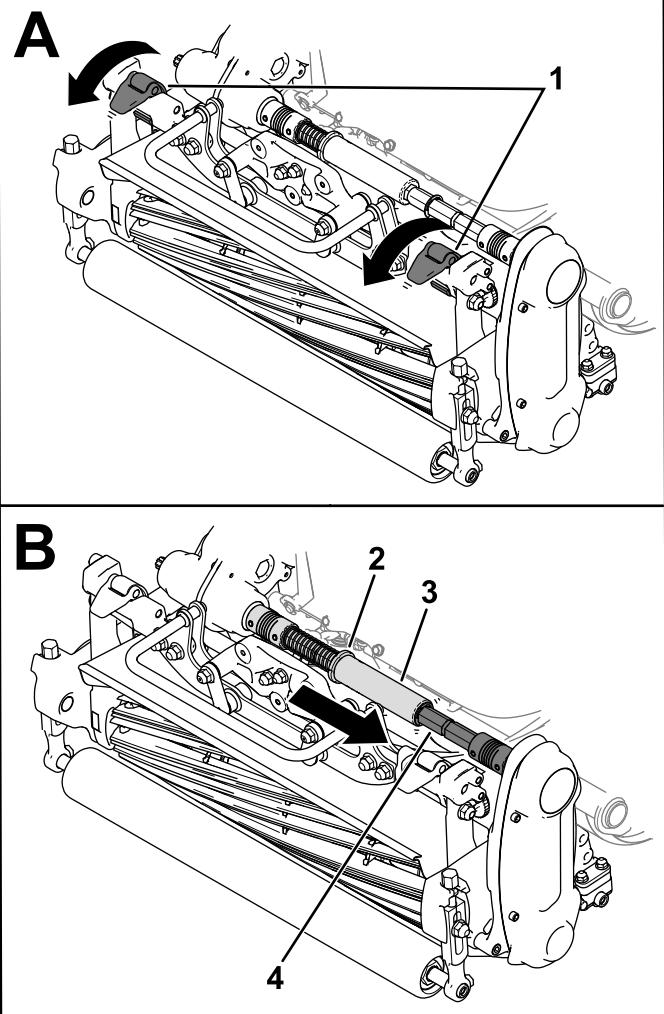

Figure 39
3. Move the suspension latches down to secure the cutting unit to the machine (Figure 39).
4. Move the collar out of the transmission-coupler-shaft groove and insert the hex tube into the cutting-unit coupler shaft (Figure 39).